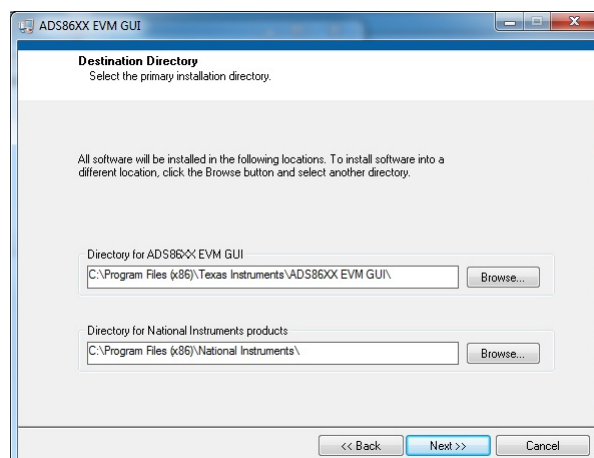

**Figure 8. LED Indicators on the Simple Capture Card**
5. Verify that the LED D5 power-good indicator is illuminated. Wait approximately ten seconds and verify that diode D2 blinks, indicating that USB communication with the host computer is functioning properly. Figure 8 shows the location of the LED indicators in the simple capture card.